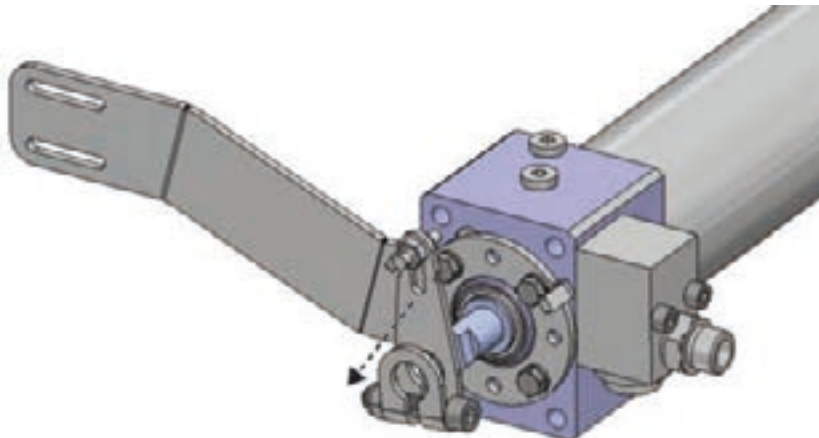

Figure 41. Removing the operating lever
2. Loosen the operating lever's fastening screw and pull the lever off the shaft (figure 41).